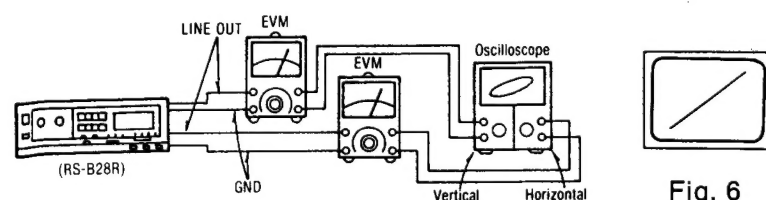

Fig. 5
<p>Ref. No. 5</p> <p>How to remove the front panel assembly</p> <p>Procedure 1 → 5</p> <ul style="list-style-type: none"> Remove the 2 connectors (A, B) and 7 flat cables (b, f, g, h, i, x, y). Remove the 3 setscrews (1~3) (see fig. 4). Push the 2 tabs aside (see fig. 4). <p>How to remove flat cable</p>  <p>Fig. 6</p>	 <p>Fig. 5</p> <ul style="list-style-type: none"> How to remove the head lead connector Pull the connector with pincers alternatively on the right and left sides as shown by the arrows. How to insert the head lead connector Match the projections of the connector with the marks printed on the P.C.B. and then insert the connector completely.  <p>Fig. 7</p>
- Make connections as shown in fig. 5.